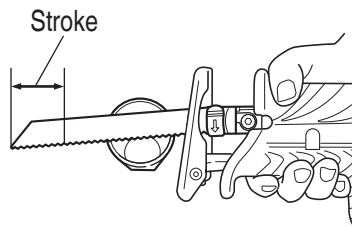
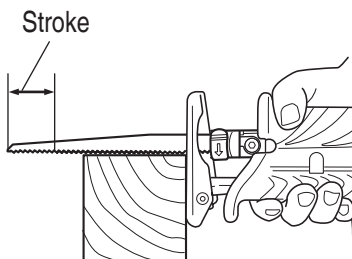

Fig. 15
Fig. 16
- Select a saw blade of the most appropriate length. Ideally, the length protruding from the base of the saw blade after subtracting the stroke quantity should be larger than the material (see Fig. 15 and Fig. 16).